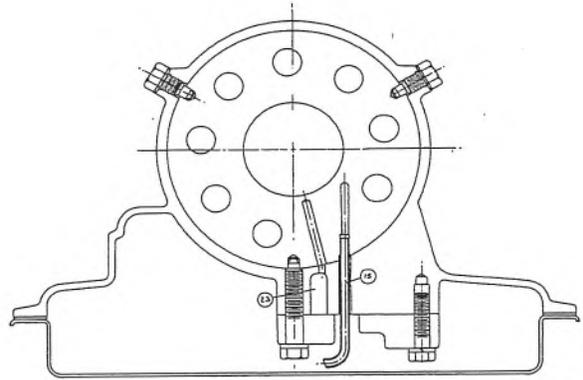
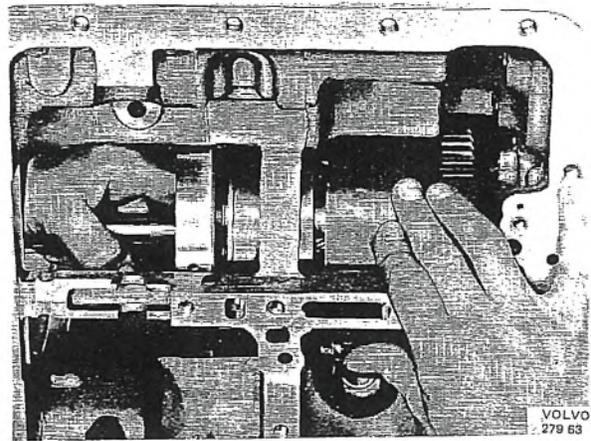

Fig. 4-84. Center support, retention and passages
Fig. 4-85. Withdrawing center support and planet gears
32. From the outside of the transmission case remove the two center support screws, see Fig. 4-84. Withdraw the center support and planet gears, see Fig. 4-85. Take out the rear brake band. Separate the center support, one-way clutch and planet gears. Remove the snap ring and the outer race of the one-way clutch.
transmission case. (Note that the holes point downwards when the transmission is turned the right way up, see Fig. 4-84.)